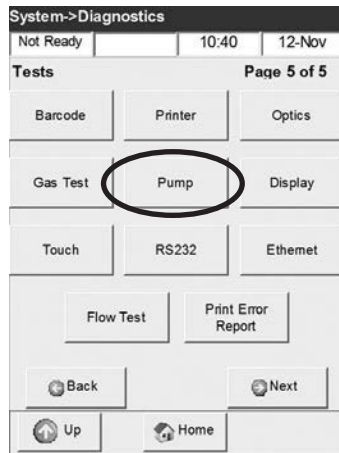

Fig. 7-20 Pump Motor Test
- Press **<Pump>** to start the test (Fig. 7-20).